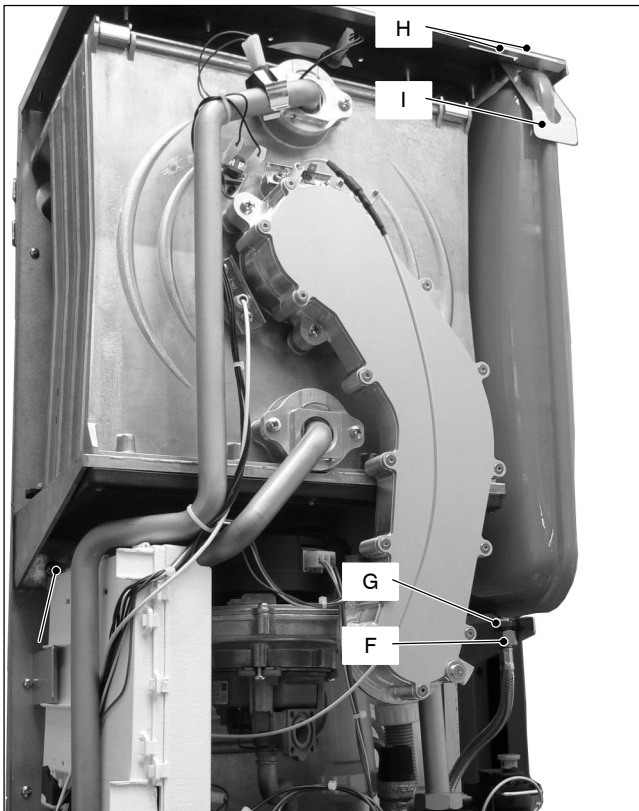

Fig. 13.2
- 2 Completely unscrew the connection *F*, the lock-nut *G* (Fig. 13.2).
- 3 Unscrew the screws *H* and remove the bracket *I* (Fig. 13.2).